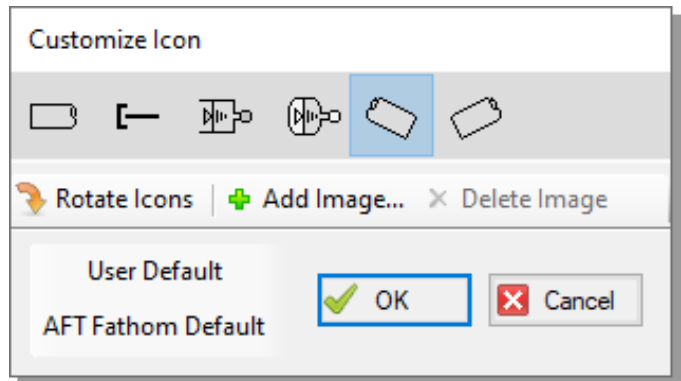

Figure 3.11 Use the Rotate button to obtain the preferred icon and rotation
9. Right click on J12 and select Customize Icon. Notice that you may need to use the Rotate button to get the preferred icon and rotation, as shown in Figure 3.11.